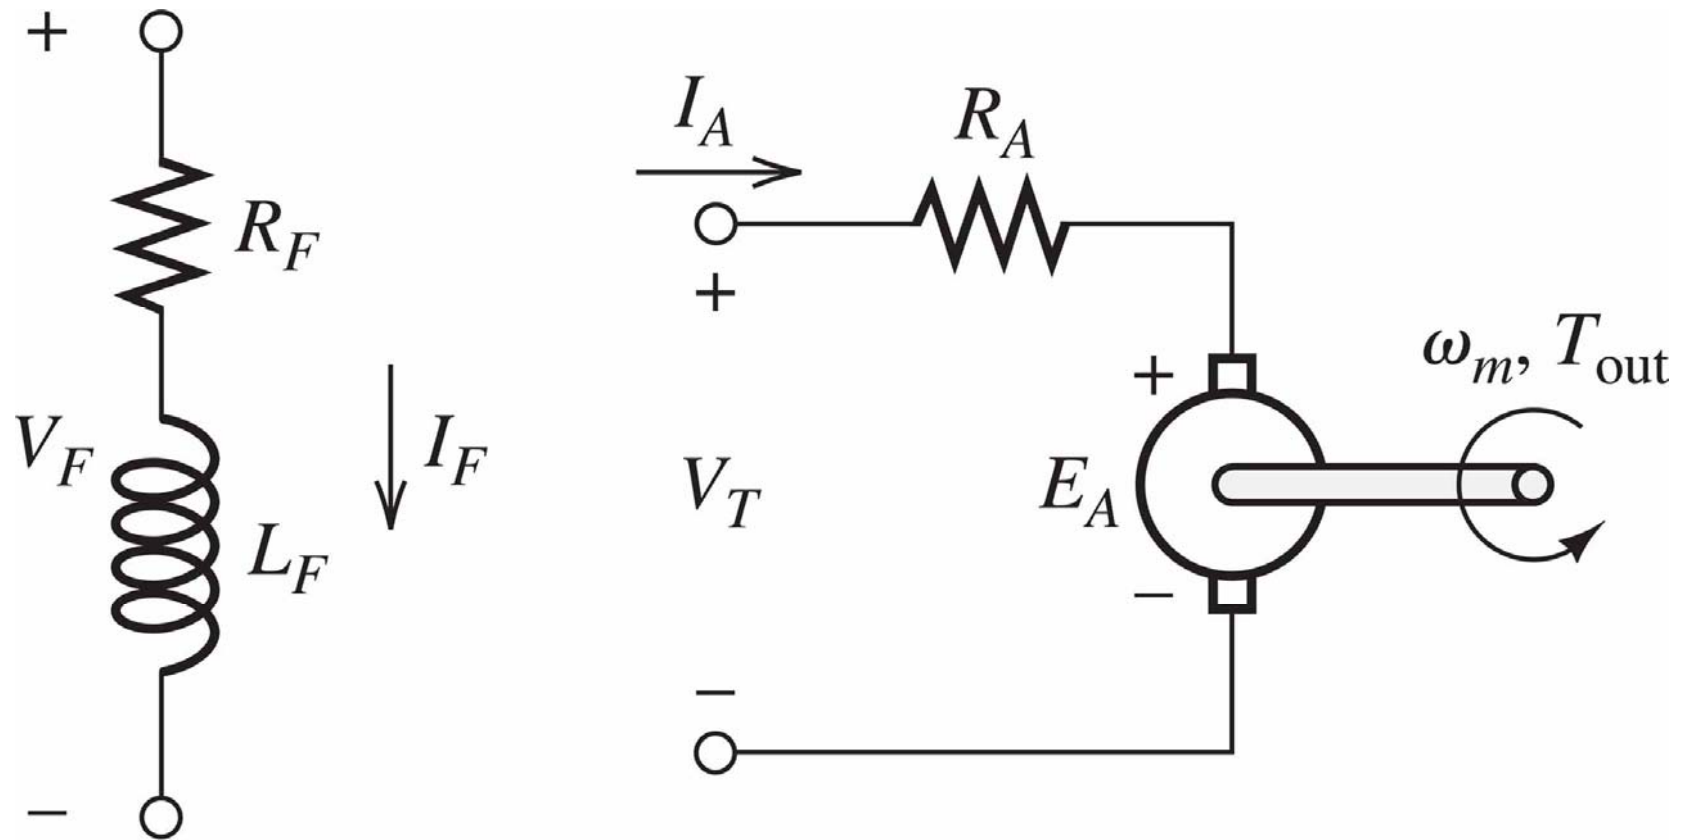

Fig. 5.13 Equivalent circuit of a DC machine.
- The equivalent circuit of a DC machine is shown in Fig. 5.13. The field circuit is represented by R_F and L_F in series.
- Applying KVL to the equivalent circuit as shown in Fig. 5.13, we have